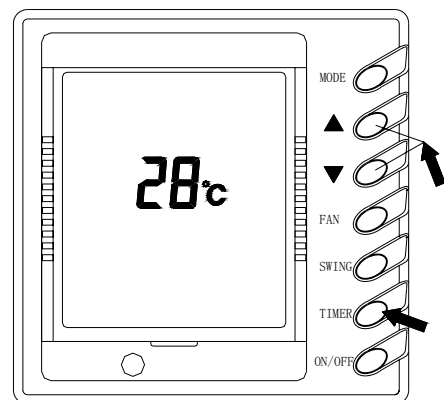

Fig2
1) On/Off (Fig.2)
Note: The displaying in fig.2 is the turned off state after connecting with power supply. After connecting power and normal communication, the environmental temp. will be displayed on LCD under state of both turned on or off. At this time, as shown in fig.3 there is no pane displayed on LCD, which means that the air conditioner is turned off.